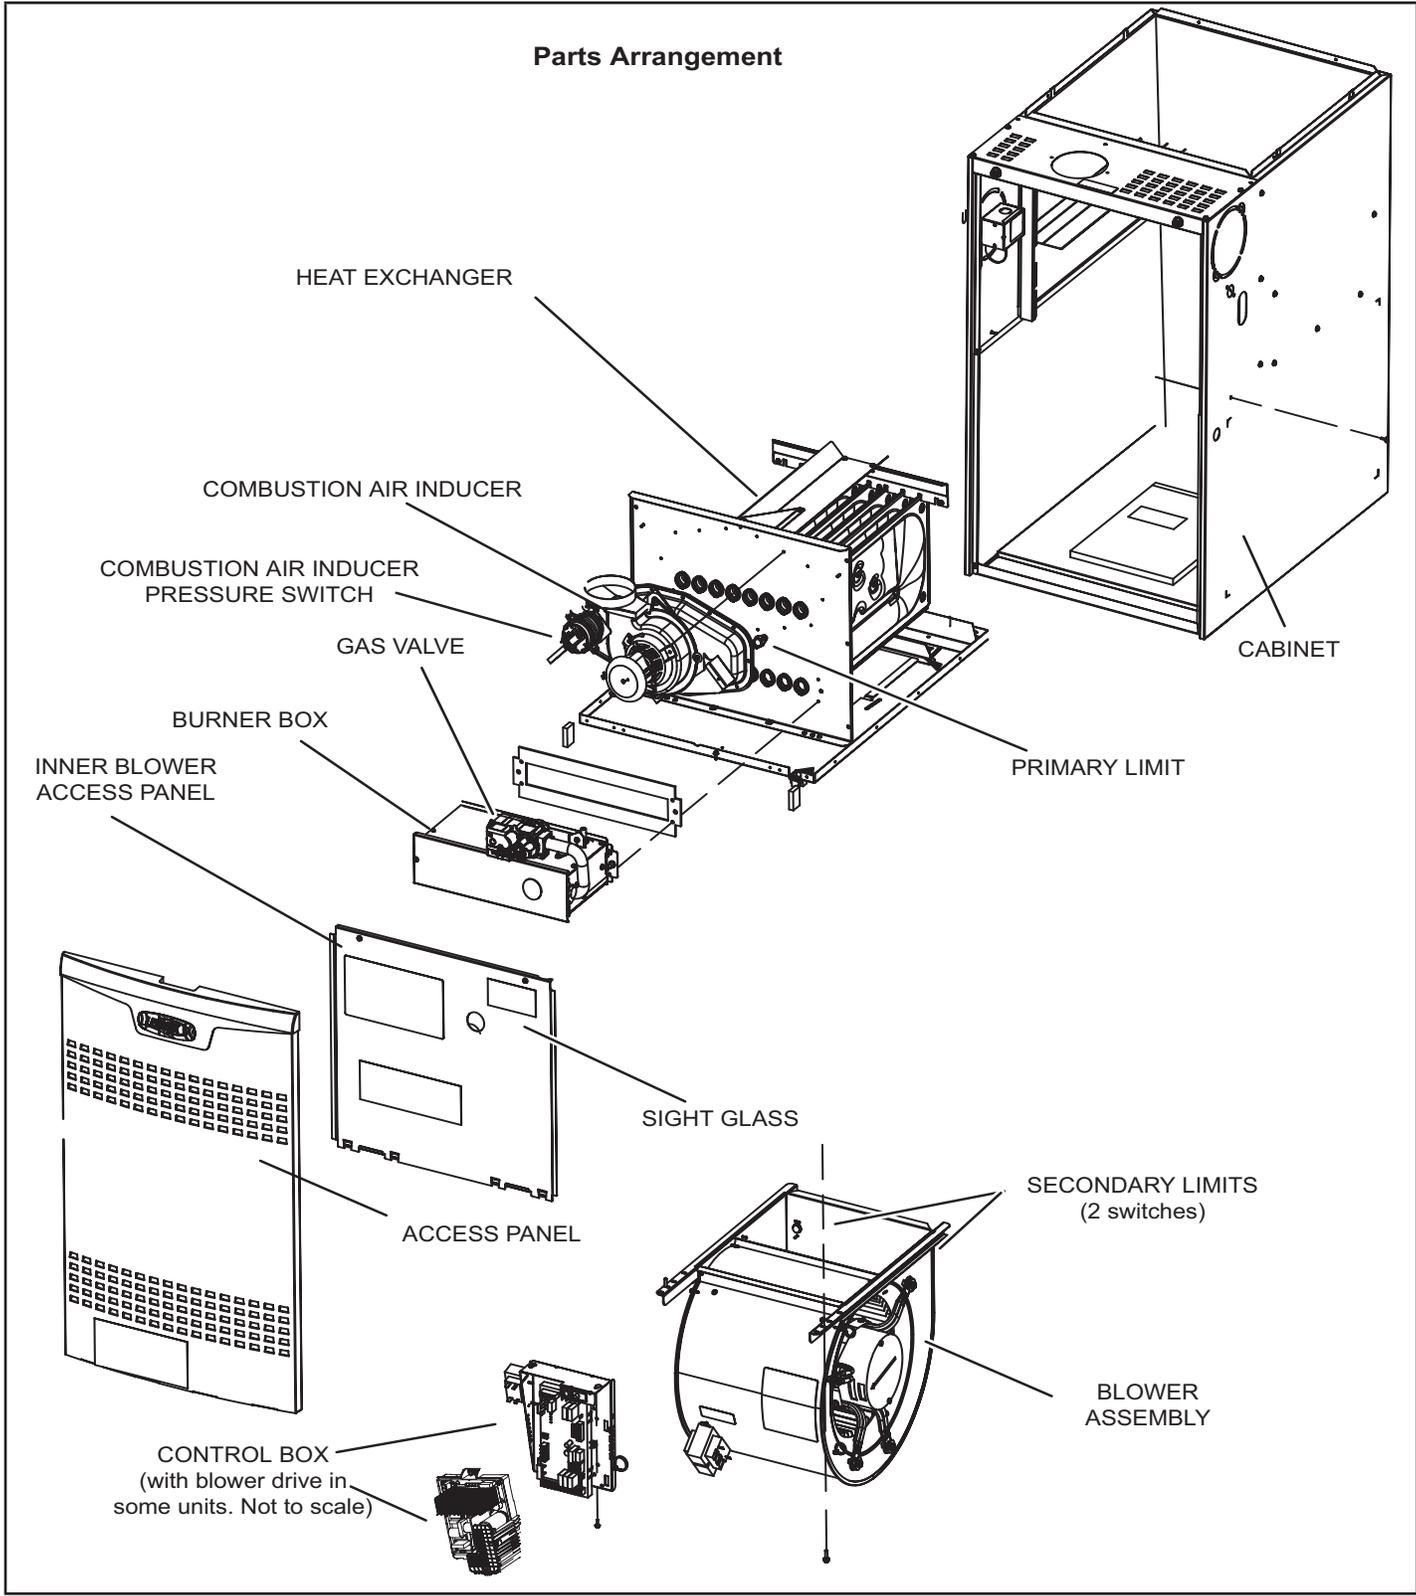
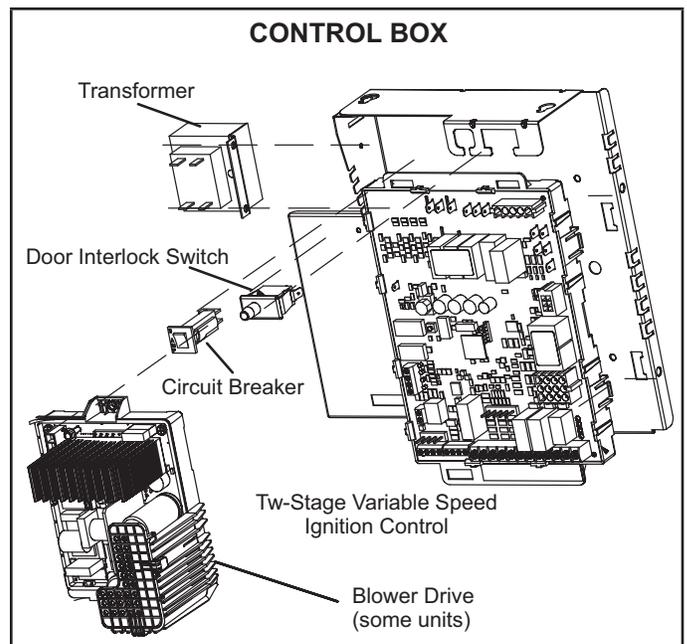

FIGURE 1
FIGURE 3
SL280UHV(X) unit components are shown in FIGURE 1. The gas valve, combustion air inducer and burners can be accessed by removing the access panel. Electrical components are in the control box (FIGURE 3) found in the blower section.